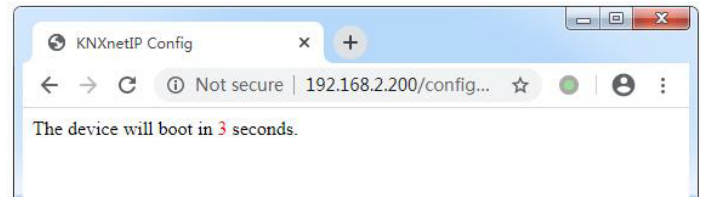

Fig. 6.2
9. [Save And Reset]: Click this button to save and reset after setting changes are completed. At this time, the page will jump to the window as shown in Figure 6.2, indicating that the device is restarting. After restarting, the page will automatically return to the configuration window.